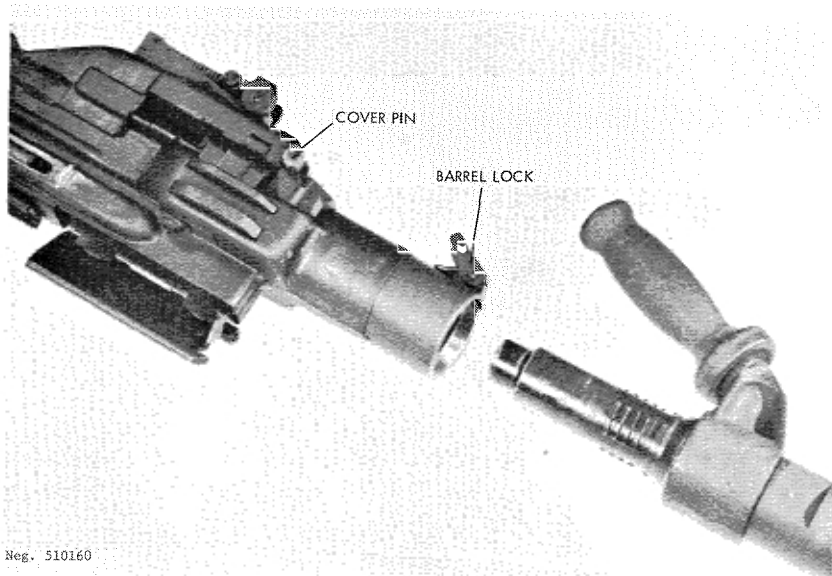

Figure 161. AA-52 barrel change.
g. To change barrels, pull the operating handle fully rearward and push the safety to the left. Press down on the barrel lock (fig 161) (on some guns, pull back on barrel lock) and, using the carrying handle, rotate the barrel to the right until it stops, then pull it forward out of the receiver. Insert the fresh barrel fully into the receiver, then rotate it to the left until it locks into place.